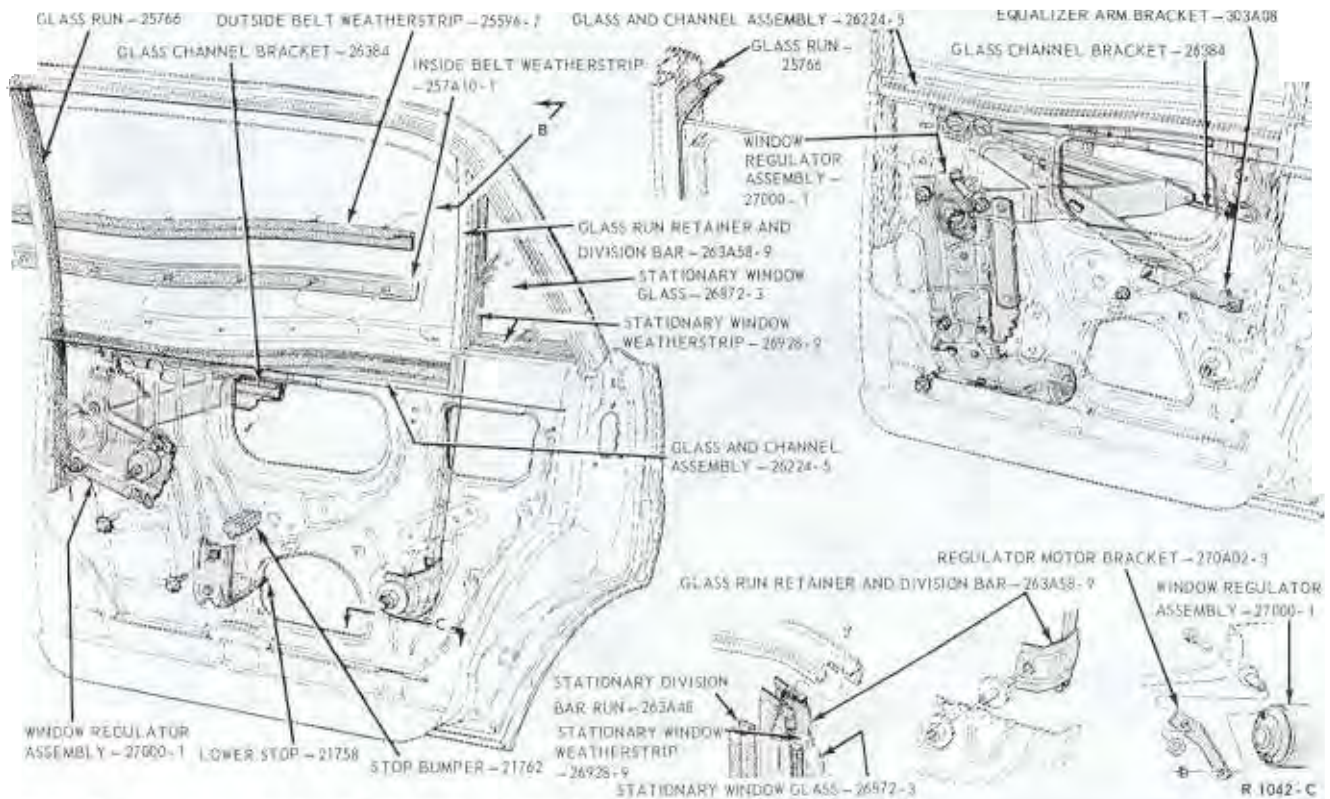

FIG. 6—Rear Door Window Mechanism—Comet, Falcon, Fairlane
2. To obtain proper alignment of retainer and division bar assembly to door window frame, loosen nut and washer assembly C. Drop the glass and channel assembly to its down position and turn screw B clockwise or counterclockwise as required. Tighten nut and washer assembly C securely (Fig. 6).